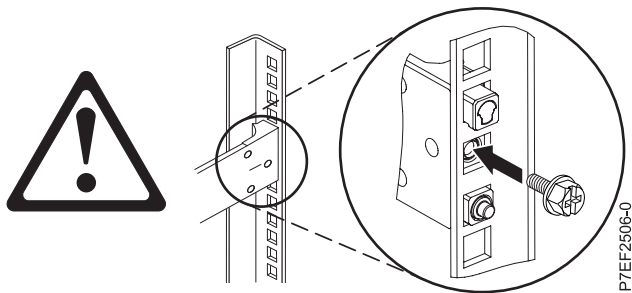

Figure 4. Reinstalling the screw
4. Reinstall the screw that was removed in the previous step, as shown in Figure 4.